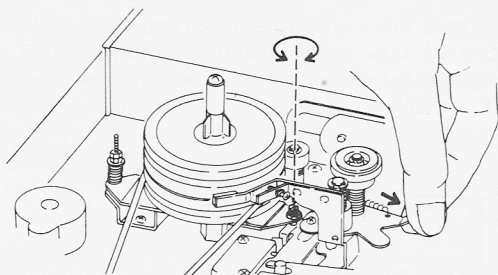

Fig. 12
4. The tension gauge should read between 180~200g. If the tension is not as specified, adjust by rotating the tension adjust screw (Fig. 12).